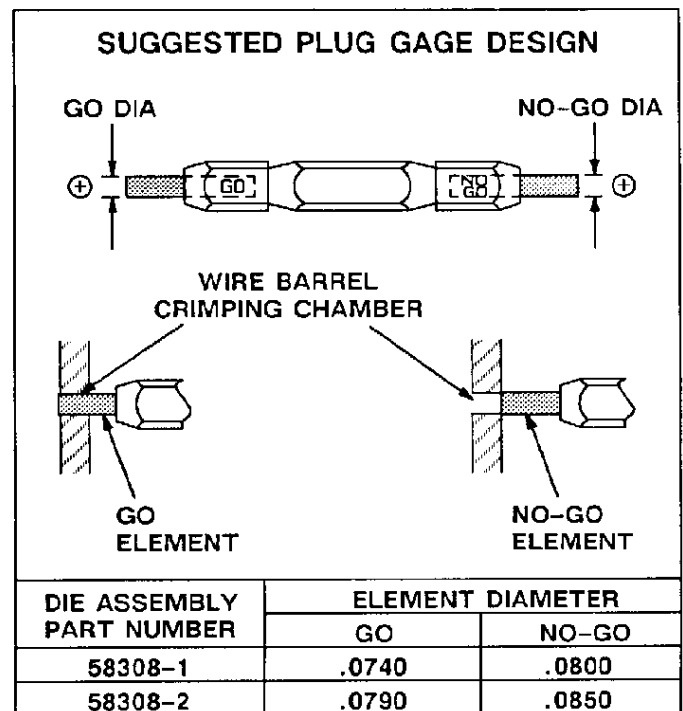

Fig. 2
This inspection requires the use of a plug gage conforming to the dimensions provided in Figure 2. AMP does not manufacture or market these gages. To gage the crimping chamber:
2. Align the gage's GO element with the appropriate crimping chamber. Push the element straight into the crimping chamber without using excessive force. The GO element must pass completely through the crimping chamber, as shown in Figure 2.
3. Align the gage's NO-GO element with the crimping chamber and try to insert the element straight into the crimping chamber. The element may start entry, but must not pass completely through the chamber, as shown in Figure 2.